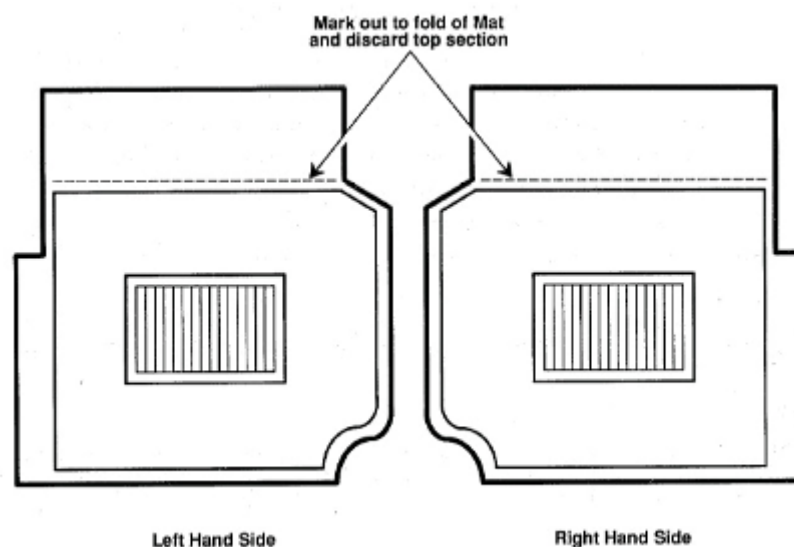

Figure 195 Floor Mats
- b. Using the existing mats as a template, lay the floor mat on the rubber mat, NSN5905-66-065-3220 and mark out the lower section from the fold of the mat downwards (Figure 195).